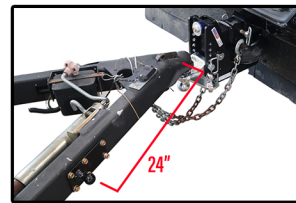

Figure 1: Measure 24" from center of coupler down side of trailer tongue
- Measure from the center of the coupler to the side of the trailer tongue 24" and make a marking for the trailer-mounted attachment ball and spacer plate (see Figure 1).